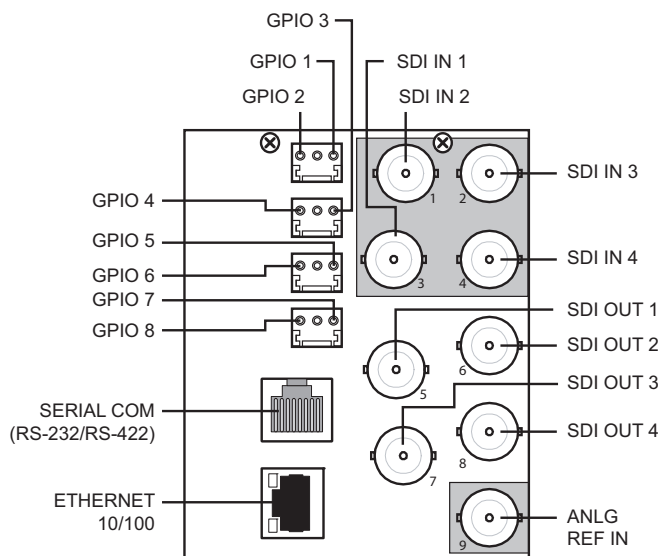
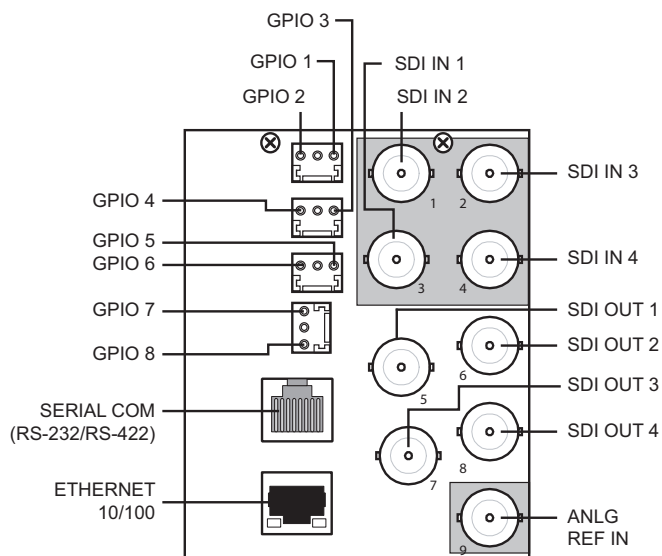

Figure 2.4 Cable Connections for the 8310AR-033
Figure 2.5 Cable Connections for the 8320AR-033
Refer to **Figure 2.4**, **Figure 2.5**, and the rear module label, for cabling designations.
Refer to **Figure 2.4**, **Figure 2.5**, and the rear module label, for cabling designations. Note that when the card is configured as **4 in and 4 out**, the AES 1-4 connections are the inputs and the AES 5-8 connections are the outputs.
- Insert the **Ethernet Cable** into the **Ethernet 10/100** port on the card Rear Module. Refer to **Figure 2.5** for the port location.